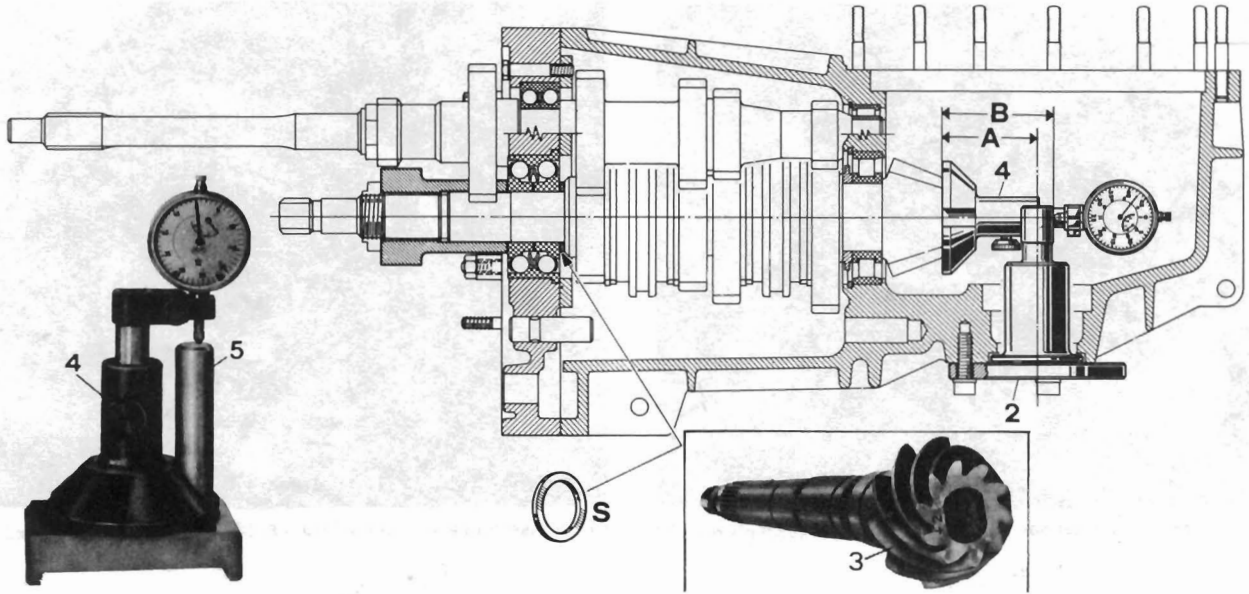

Fig. 7.28 Pinion to crownwheel axis measuring diagram (Sec 11)
- 10 The distance A between the end face of the pinion and the axis of the crownwheel should be 56.500 mm (2.224 in), plus or minus the amount (in hundredths of mm) which is engraved on the end of the pinion gear (Fig. 7.28).
- 12 The distance B shown in Fig. 7.28 corresponds to the nominal distance between the end of the pinion and the end of the stylus on the dial gauge.